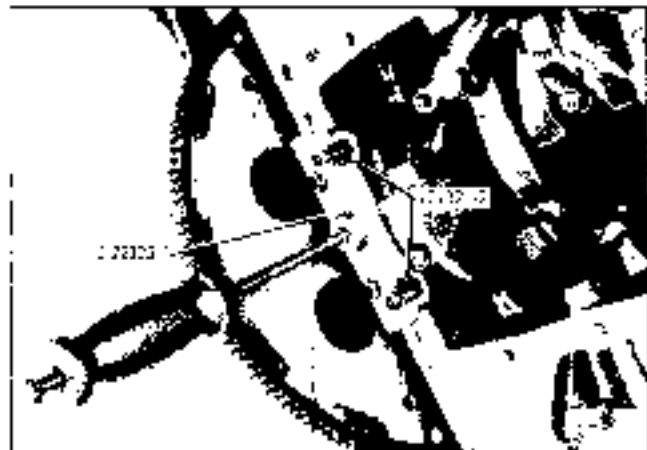

Fig. 6-44. Removing Rear Main Bearing Cap
2. Remove rear bearing cap using J 23225 (Fig. 6-44).
7. Install bearing cap using J 22325 (Fig. 6-44) and torque bearing cap bolts 100 lb. ft.